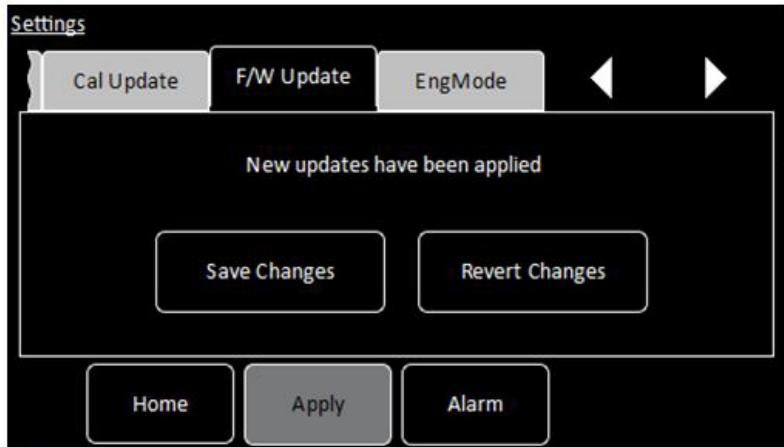

Figure 6-4 F/W Update tab in TRIAL mode
- c) Tap **Save Changes** to accept the new firmware version (see Figure 6-4).